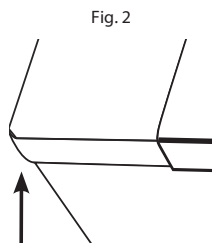

Fig. 2
④ To open, lift from the outer edge of the lid. (Fig.2)
❷ To open, turn the knob from the locked position to the unlocked position, one quarter turn counter-clockwise. To open, lift from the outer edge of the lid. (fig.2)